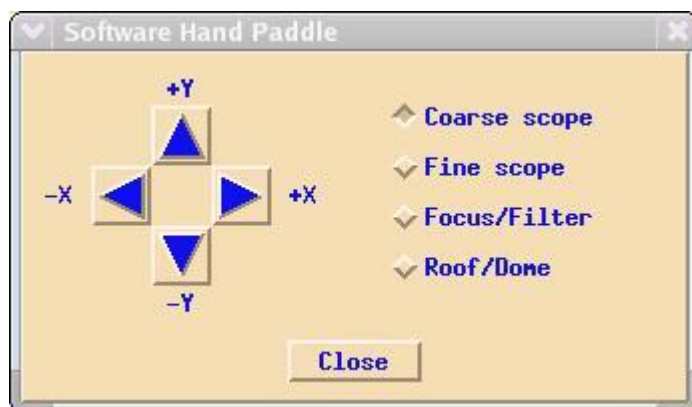

Figure 2. The Talon Software Paddle, Used to Move the Telescope Manually
Using the software paddle command in the xobs window (Figure 2), the user can position the telescope, filter wheel and focus position manually. The motion of the telescope to the east and west is referred to as the right ascension (RA) or hour angle (HA) of the telescope. To travel north and south is referred to as Declination (Dec). Using positive and negative encoder counts, moving the telescope axes is a simple matter of moving the axis positive or negative x (RA) or y (Dec). These coordinates are in relation to the North Pole.